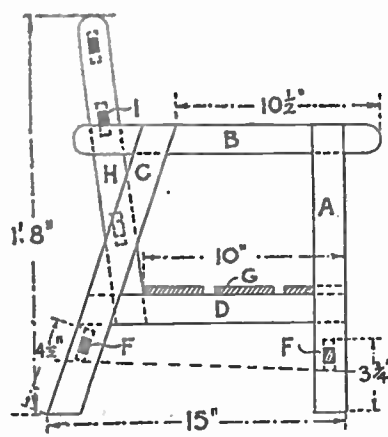
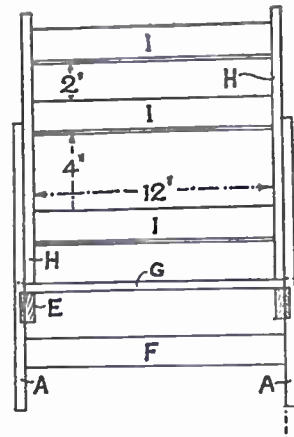
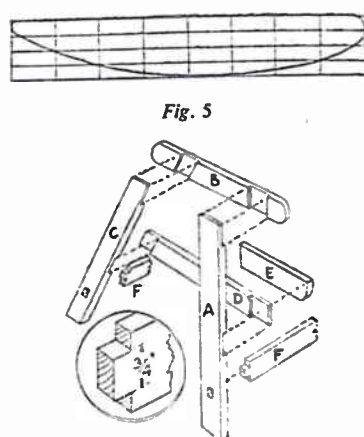

Fig. 2
Fig. 3
Fig. 4
Commence work by making the main side frames of the chair which consist of the rails (A), (B), (C) and (D) (see Fig. 2). All these rails are to be half-lapped and glued, and either screwed or pinned together with wood dowels.
Now look at Fig. 4 which shows all the rails cut and ready for assembly. The halving joints must be carefully cut in after marking out with the try-square. A small-tooth tenon saw is best for cutting in the halvings both across the grain and down lengthways, care being taken when cutting in the latter direction to allow for the thickness of the saw, so that the finished joint bears up a full ½ in.
Before assembly is started, pencil in the position and cut with the fretsaw the ½ in. mortises in the uprights (A) and (C) which receive the end tenons of the rails (F). These are shown in Fig. 2, and in detail at Fig. 4.
The seat is made of the three pieces (G), and they are nailed to the seat rails (E) which go inside and are nailed to or screwed to rails (D). The rails (E) are shown in Fig. 4 and in the front view of the chair (Fig. 3). The front member (G) will have to be notched out at the ends and fitted round the upright leg (A), see dotted lines in Fig. 2.
The back rest of the chair consists of the two upright rails (H) and the three cross rails (I). The whole frame when made up fits down between the two side frames, as Fig. 3 shows. Round off
blend with the curve worked on the side pieces attached to the base. Make sure, too, that the two lid sides are identical in shape. Pin the two together and glasspaper down as one, when cut. They are then assembled between two blocks of wood as shown in Fig. 4.